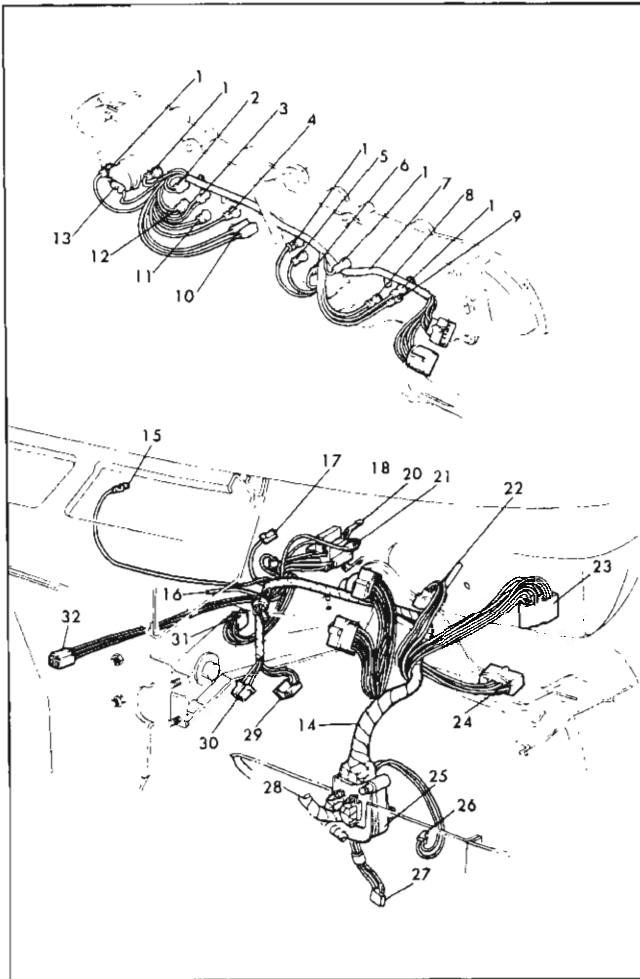

Fig. 55—Instrument Cluster Wiring
The underdash harness consists of two separate assemblies with the instrument cluster having its own harness. Figure 55 shows all console wiring connections. Also, the main harness incorporates a resistance wire which eliminates the need for a light relay coil in the voltage regulator (see Charging Systems under Engine Electrical).
the two multiple lead instrument cluster harness connectors (fig. 55).
1. After removing console, disconnect all indicator lights and electrical connectors from the cluster (fig. 55).